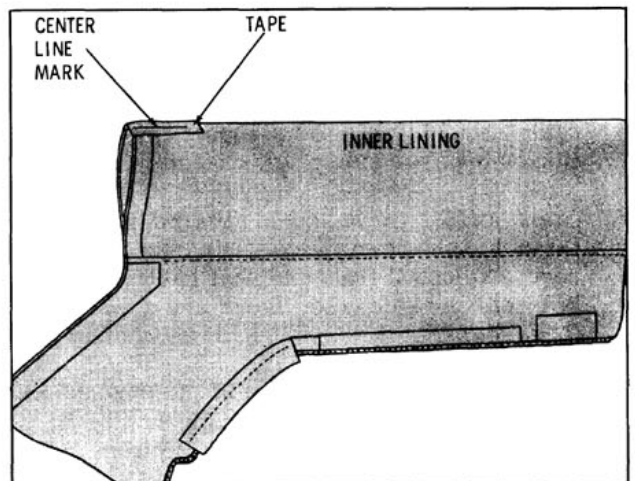

Fig. 16-142 Marking Top Material
23. Fold new top material in half so that inner lining of top material is exposed. (Fig. 16-142) Install a 6" piece of tape on inner surface at centerline fold of new top material. (Fig. 16-142) Using a pencil, mark the approximate centerline of new top material along entire length of tape.